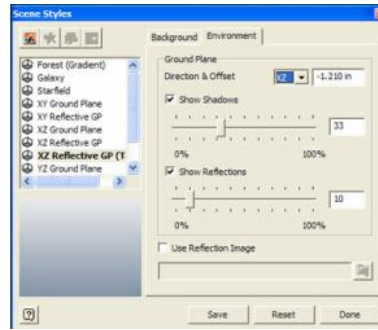

Figure 5: Set Environment options to create visual interest in your rendering studio
**Adjust the Environment.** To refine the background effect, click on the Environment tab to display your options for the direction of gradient, the degree of contrast and other effects (figure 5).